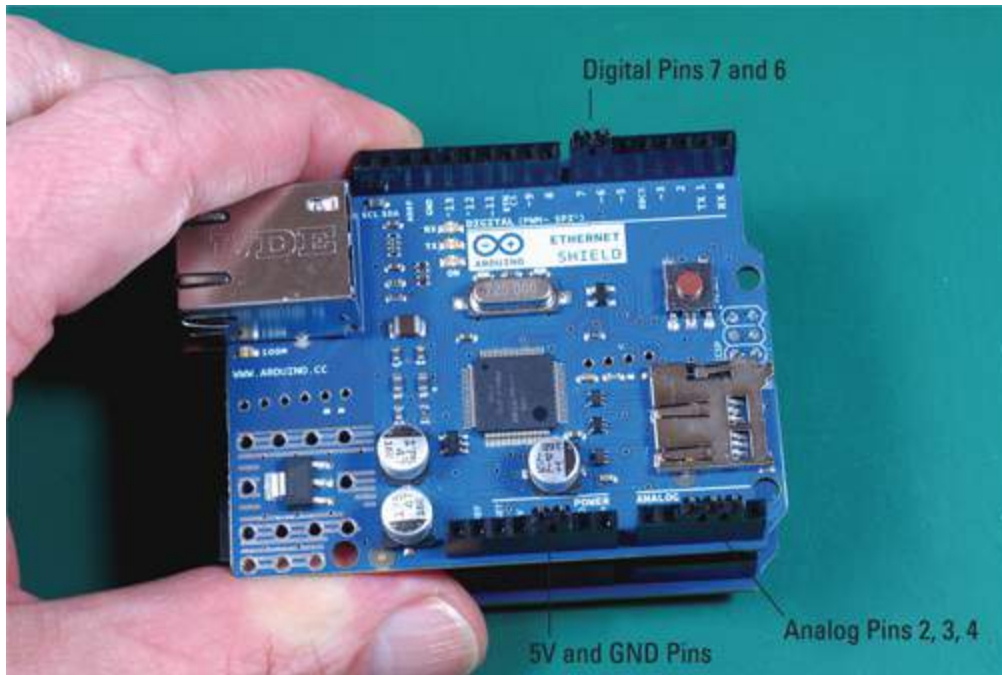

Figure 12-11: Using your Arduino to hold your pin headers securely for soldering.
2. Insert the pins into the header sockets on your Arduino, as shown in Figure 12-11.